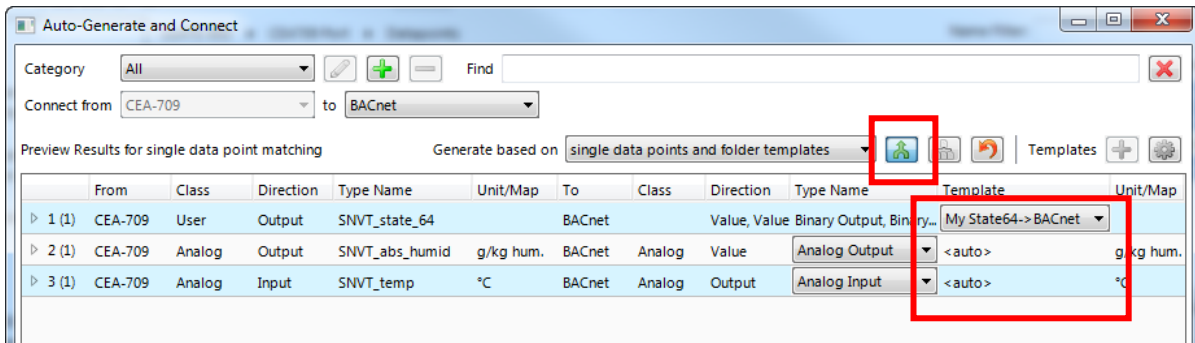

Figure 52: Auto-generate and connect with auto-generate template.
8. Select an auto-generate template in the drop-down box of the **Template** column as shown in Figure 52.